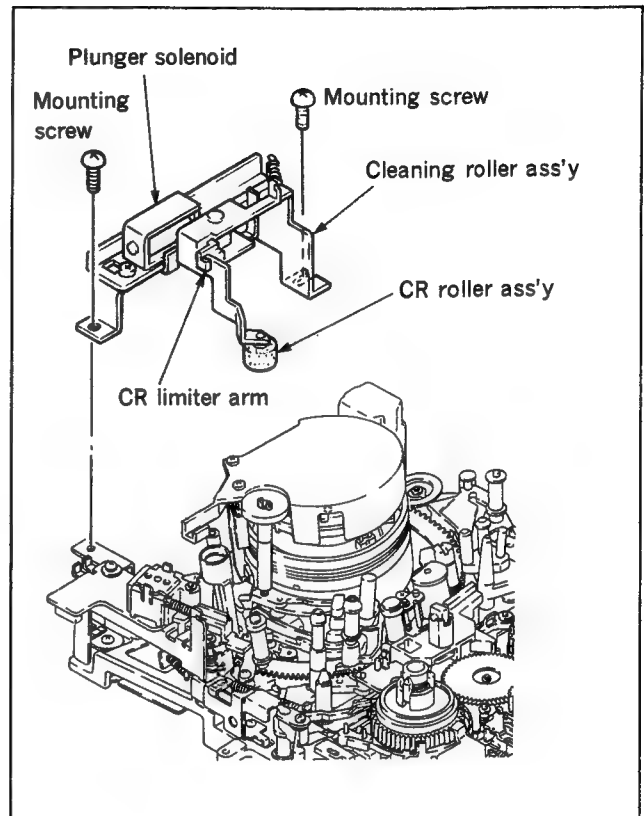

Fig. 4-5-5 Cleaning roller ass'y removal
2. Cleaning roller ass'y removal (Fig. 4-5-5)